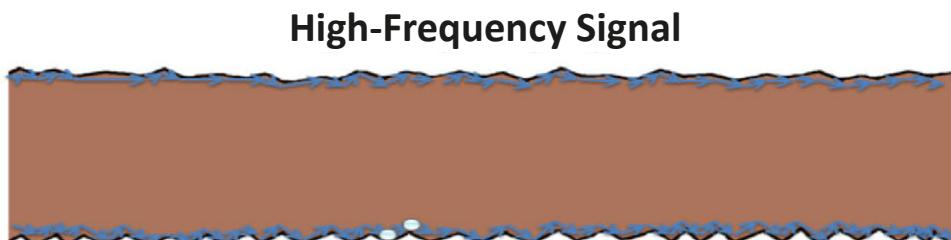

Figure 2.2: High-frequency current conductivity. (Source: Isola)
Figure 2.2 illustrates this in a cross-section of a high-frequency signal. As you can see, the RF currents are highest in the lower surface (against the laminate) of the circuit. This is why the first metal (copper foil) is the most important to conductivity in a high-frequency multi-metal stackup. This means that the roughness of surface copper is extremely important to signal integrity and performance. There are two types of commercial copper foils typically used with the raw laminate copper foil for PCBs: electrodeposited (ED) and rolled annealed (RA) copper.